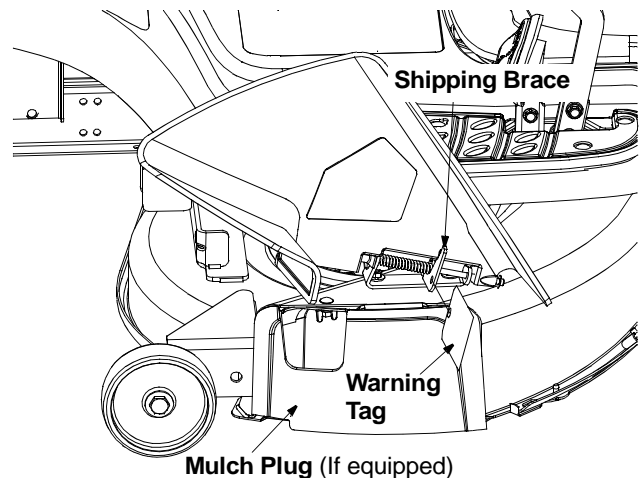

Figure 2
- Locate the shipping brace and accompanying warning tag on the right side of the tractor, between the discharge chute and the cutting deck. See Figure 2.